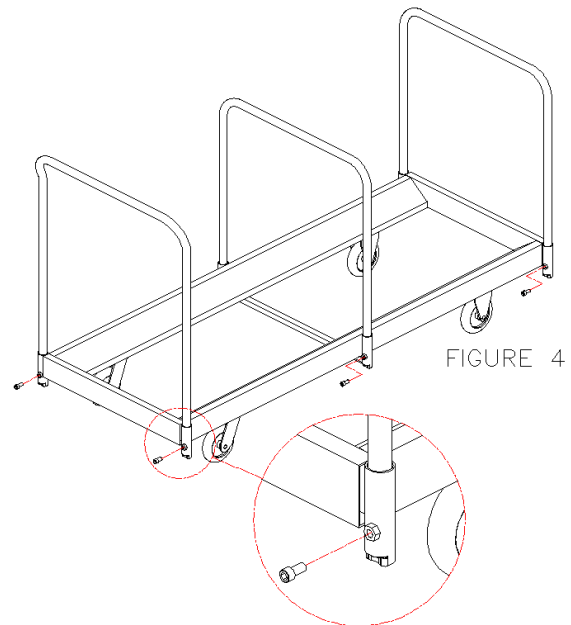

FIGURE 4
2. Start the 3/8" X 3/4" socket head bolts into the threaded nut on the sockets (if not already done -See Figure 4). Do not tighten yet.
4. Secure the handles to the Base by using the wrench provided (See Figure 4).